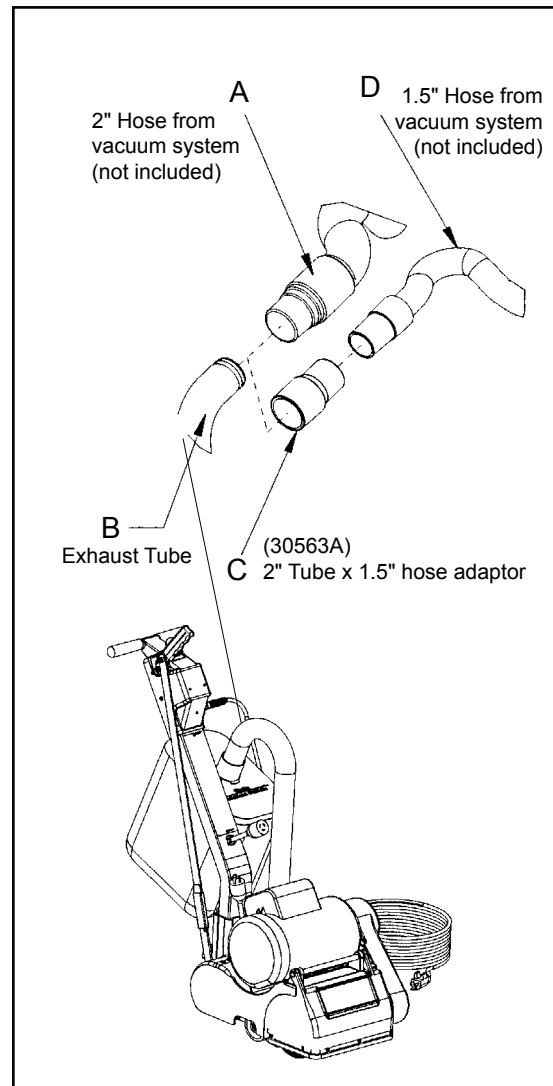

Figure 9
1. Install 2" hose end (figure 9, A) directly over the exhaust tube (figure 9, B).
1. Install the 2" x 1 ½" hose end adaptor (Part No. 30563A) (figure 9, C) over the exhaust tube (figure 9, B).
2. Insert 1 ½" hose end (figure 9, D) into the adaptor (figure 9, C).